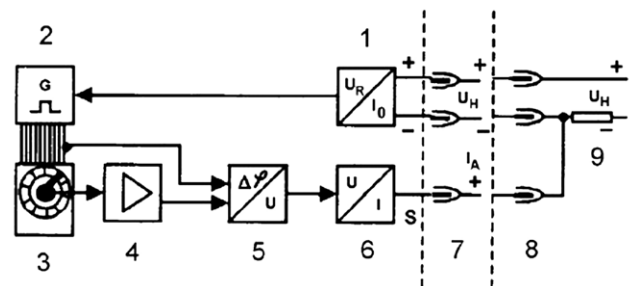

Figure 24: ESR block diagram
The rotary motion generated by the switching and signalling unit is transmitted by the gear wheel to a rotor inside the electronic position transmitter. The rotor position is measured with a capacitive pick-up system. Ten stator segments (see figure 24) are excited using successive pulses (2). The phase relationship of the signal – capacitively decoupled from the rotor – depends on the rotation angle. The signal is amplified (4) and is converted via the phase comparator (5) and the voltage/current converter (6) into an output current proportional to the rotation angle.